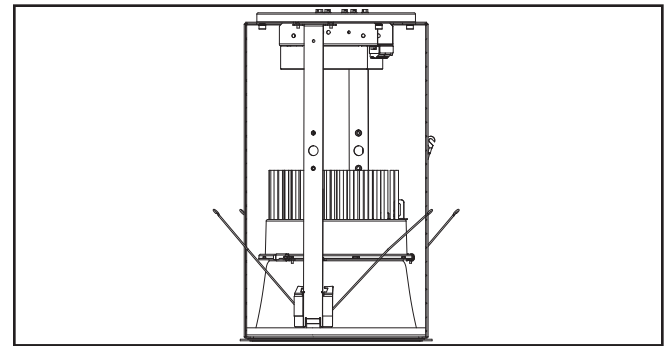

Figure 8.
5. Install the LED Engine and trim assembly by inserting the torsion springs into the spring receivers located inside the housing (Figure 8).